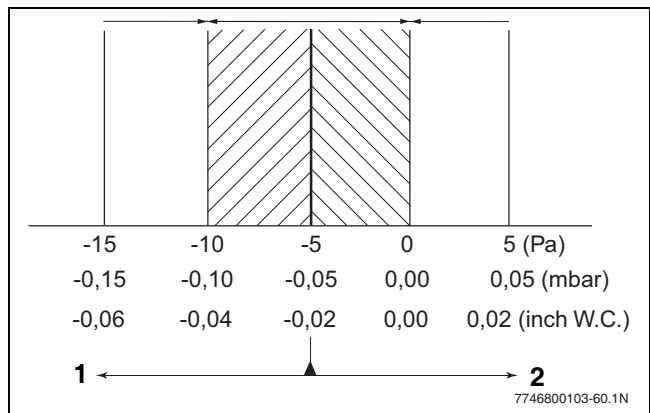

Fig. 67 Air/gas difference at part load
- ▶ Read the differential pressure. The differential pressure ($p_{\text{Gas}} - p_{\text{Air}}$) must be -0.02 inch W.C. (-5 Pa) (± 0.02 inch W.C. = ± 5 Pa) (read-out on pressure gauge: -0.04 - 0 inch W.C. = -10 - 0 Pa) (→ fig. 67).